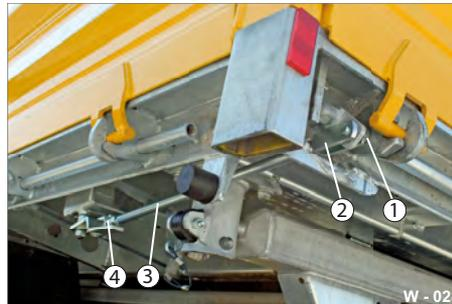
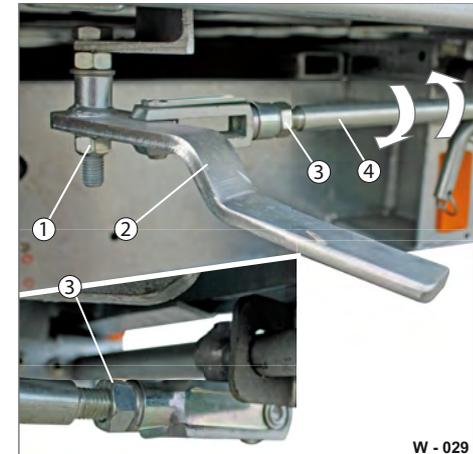

Fig. 28 Central locking system at rear
Fig. 29 Readjusting central locking system
- ▶ Unscrew both lock nuts (Fig. 29/3) on the transfer rod (Fig. 28/3).
- ▶ Check the alignment by actuating the lever (Fig. 29/2).
- ▶ Screw the lock nuts (Fig. 29/3) tightly.